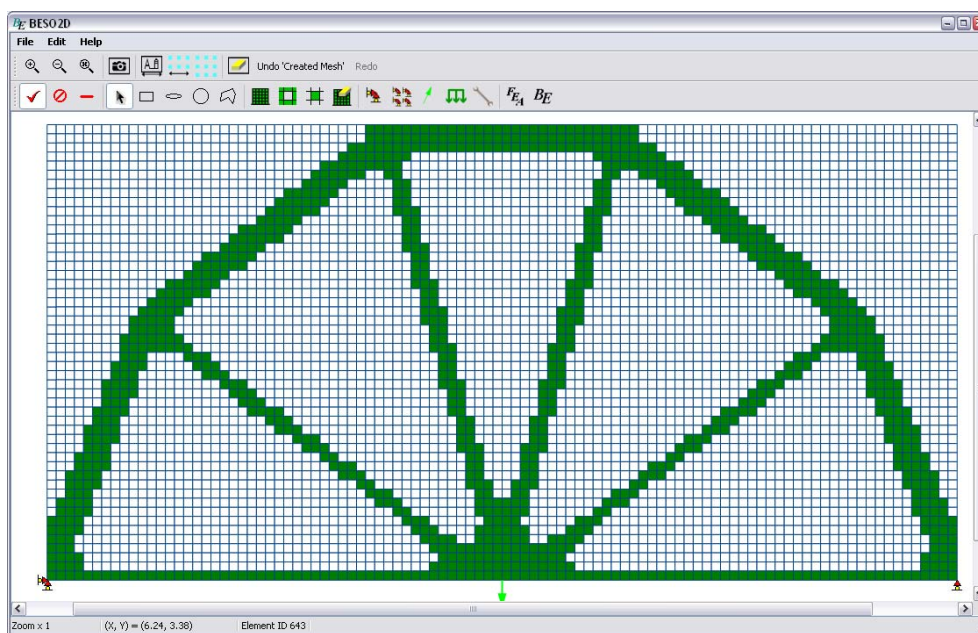

Figure 13 Displaying the solution from command line optimization for the new objective volume fraction of 20.0%.
- Open the BESO2D GUI window, import the model file of the final design to view the final optimal design as shown in Figure 13.